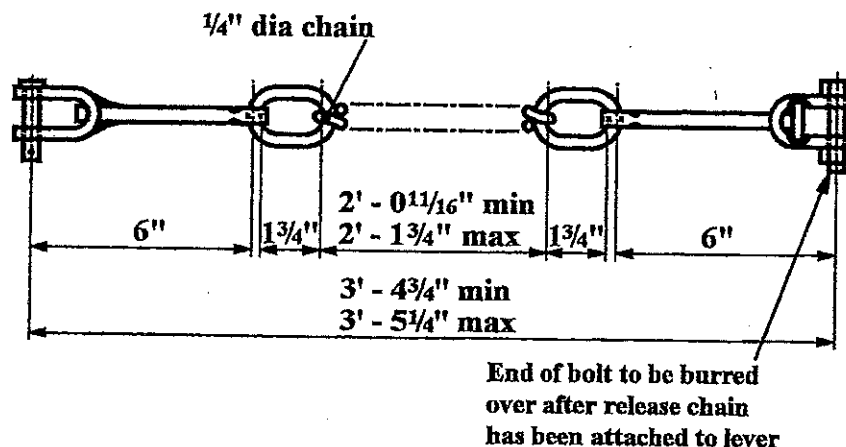

Figure 2 - Release Chain Arrangement
- (h) Examine the release chain arrangement and ensure that it is correctly assembled as detailed in fig. 2.
- (j) Measure the length of the release chain and check that it is within the limits stated in fig. 2.